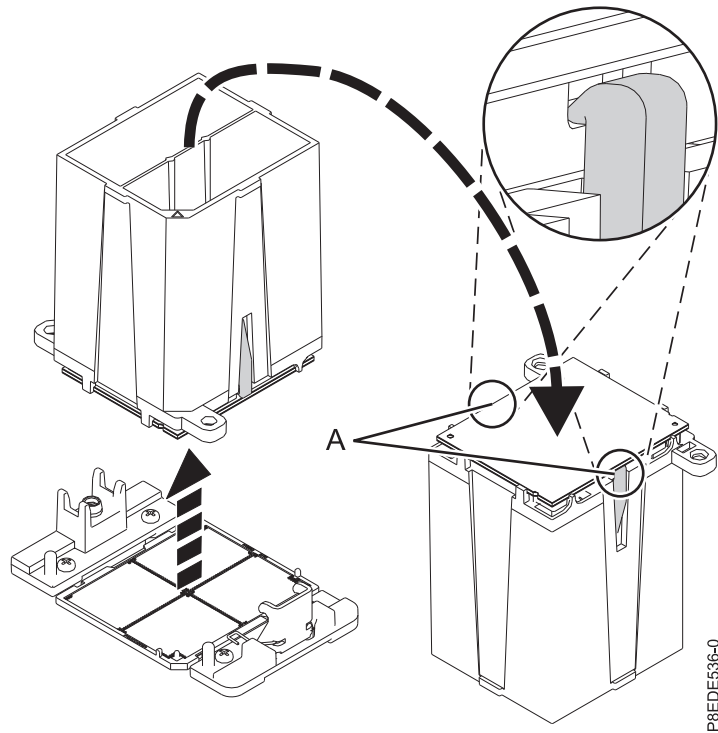

Figure 91. Preparing for system processor module installation
- a. Ensure that both jaws (**A**) are firmly grabbing the system processor module, as shown in Figure 91 on page 90.